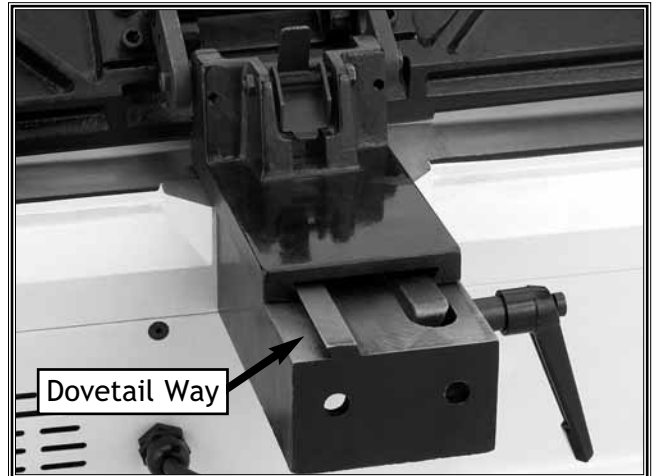

Figure 12. Fence assembly on dovetail way.
2. Slide the fence assembly over the dovetail way and onto the fence support (**Figure 12**).